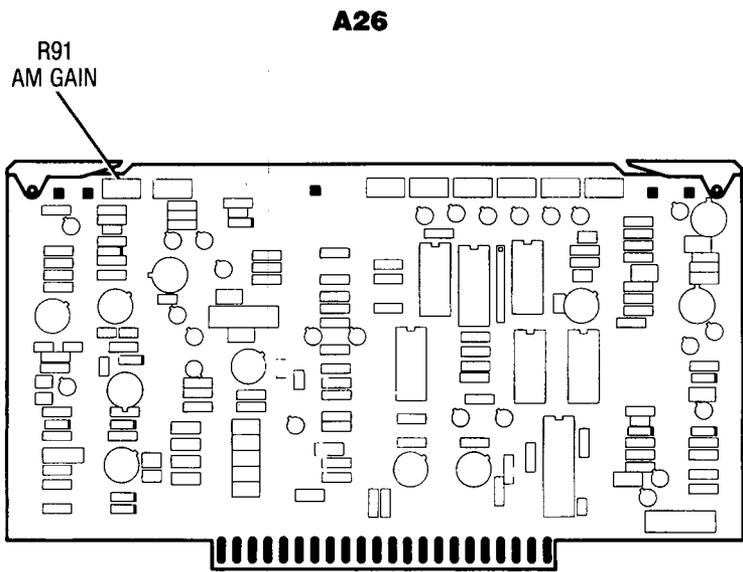

Figure 5-52. A26 Linear Modulator Component Location Diagram
32. Adjust the power supply for +0.3 Vdc. The power meter indication should be between 2.18 to 2.38 dB. If the indication is not in this range, adjust A26R91 (AM GAIN, Figure 5-52) for a power meter indication within the given range.